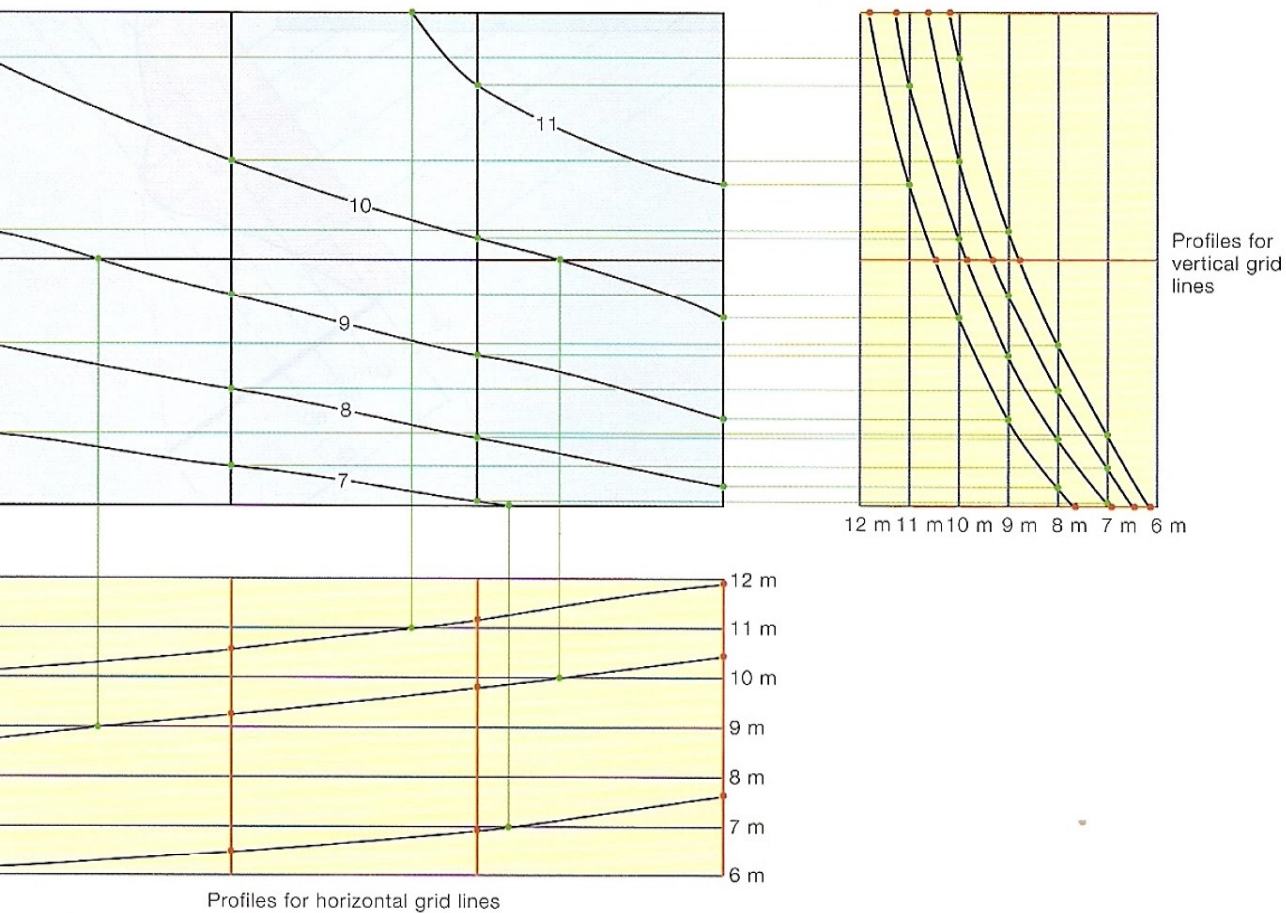

Fig. 19.13
- (1) A profile of each line of the survey is constructed using the levels from the grid.
- (2) Horizontal and vertical lines are drawn on the profiles at the levels where the contours are found.
- (3) The points at which the profiles cross these lines indicate where the contour lines cross the grid.
- (4) In Fig. 19.13 the profiles are superimposed on each other.